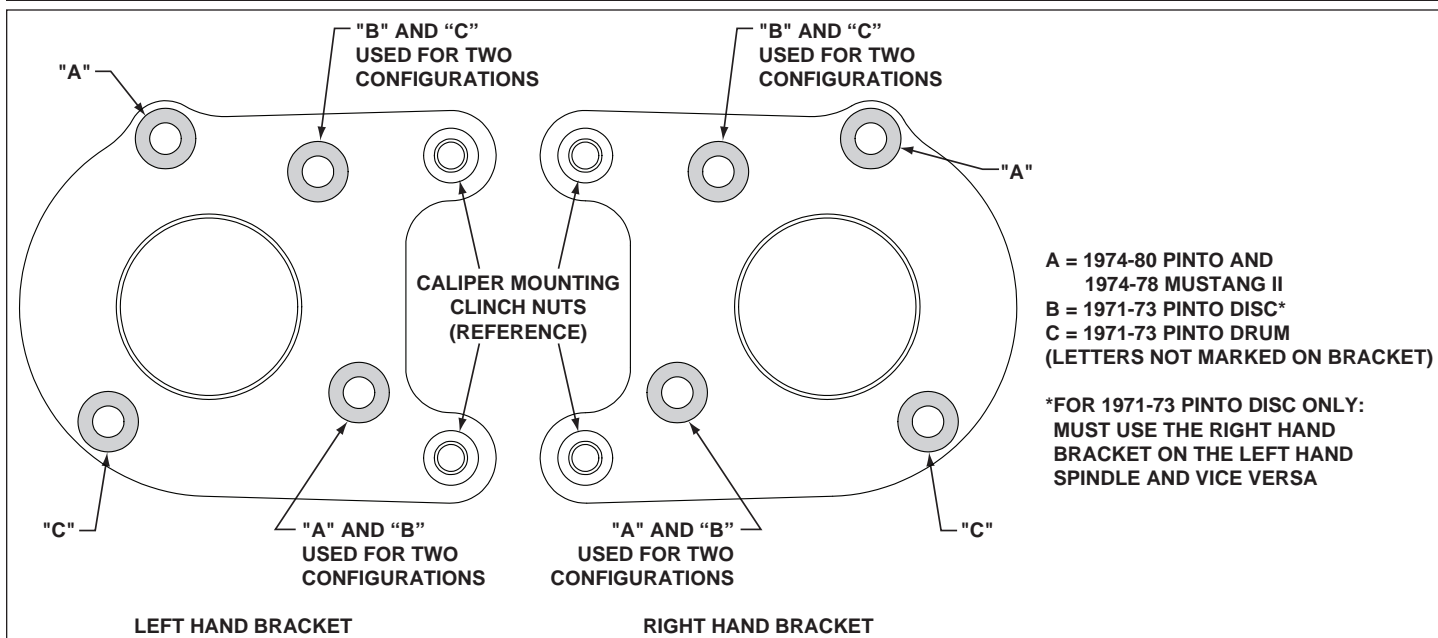
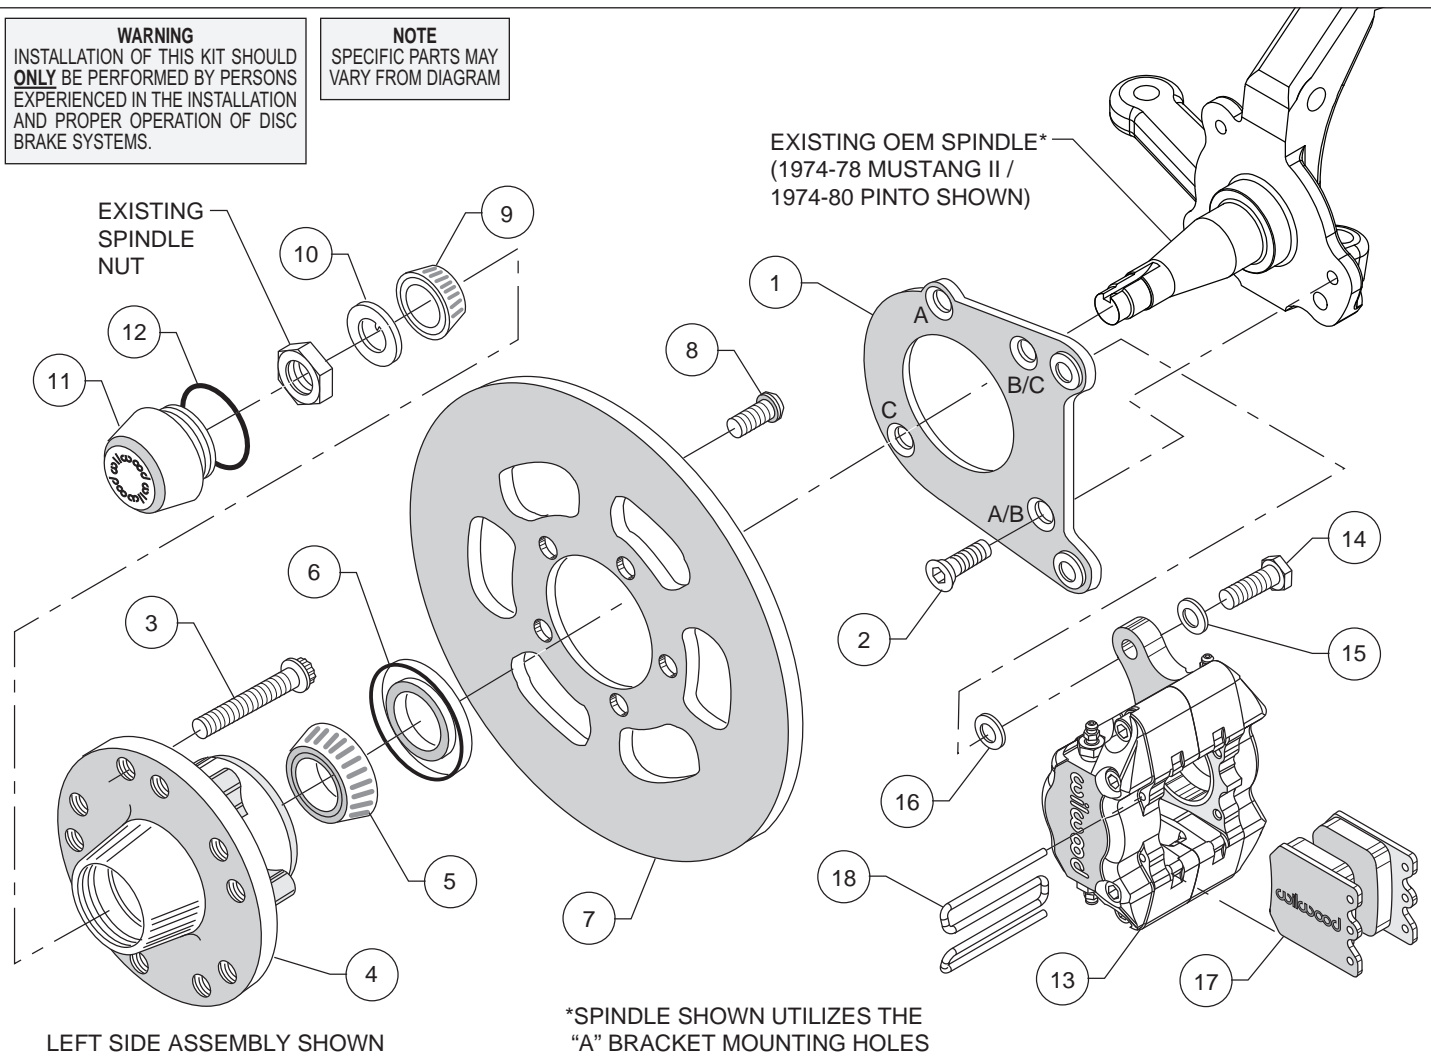
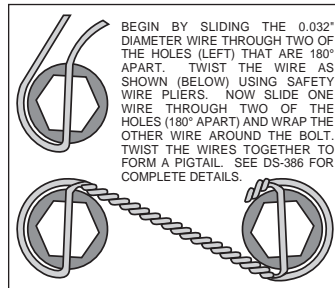
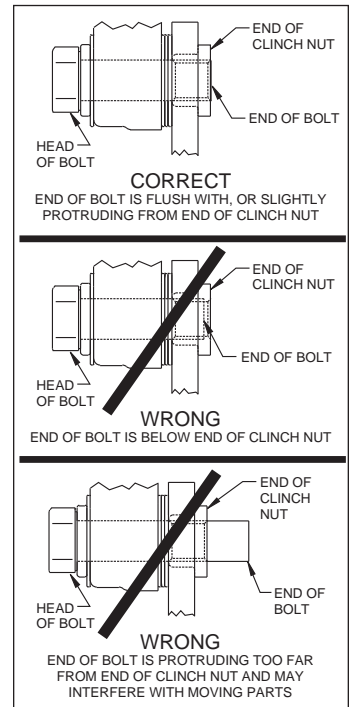

Figure 1. Wilwood Caliper Mounting Bracket
Figure 2. Typical Installation Configuration
Figure 4. Safety Wire Diagram
Figure 5. Clinch Nut Engagement Diagram
This kit has been designed for use with three spindle configurations. The only difference is in how the Wilwood caliper mounting bracket is installed. The same bracket is used for all three configurations; the 1974-78 Mustang II/1974-80 Pinto, the 1971-73 Pinto disc and the 1971-73 Pinto drum spindle (see Figure 1). For your convenience we have supplied fasteners for all applications (see parts list and Figure 2 as necessary, items 2 and 2A). Use the fasteners that are applicable to your vehicle and disregard the other items.
Assembly Instructions (numbers in parenthesis refer to the parts list, on the preceding page and Figure 2): **CAUTION:** All mounting bolts must fully engage clinch nuts. Be sure to check that all bolts are either flush or protruding through flanged side of clinch nut after shimming, Figure 5.
•Orient the caliper mounting bracket (1) as shown in Figure 2 and Photo 1. Using the bracket holes indicated “A” in Figure 1, mount the bracket to the spindle using bolts (2), Photo 1. Temporarily tighten the mounting bolts. Ensure that the flanged heads of the clinch nuts in the bracket are facing outboard, Photo 1. **NOTE:** *The bracket must fit squarely against the mounting points on the spindle.* Inspect for interference from casting irregularities, machining ridges, burrs, etc. Remove bolts one at a time, apply red *Loctite*® 271 to threads and torque to 30 ft-lb.
•Orient the caliper mounting bracket (1) as shown in Photo 2. Using the bracket holes indicated “B” in Figure 1, mount the bracket to the spindle using bolts (2), Photo 2. **NOTE:** *For this application, the right hand bracket must be used on the left hand spindle, and vice versa.* Temporarily tighten the mounting bolts. Ensure that the flanged heads of the clinch nuts in the bracket are facing outboard, Photo 2. **NOTE:** *The bracket must fit squarely against the mounting points on the spindle.* Inspect for interference from casting irregularities, machining ridges, burrs, etc. Remove bolts one at a time, apply red *Loctite*® 271 to threads and torque to 30 ft-lb.
•Orient the caliper mounting bracket (1) as shown in Photo 3. Using the bracket holes indicated “C” in Figure 1, mount the bracket to the spindle using bolts (2) and nuts (2A), Photo 3. Temporarily tighten the mounting bolts. Ensure that the flanged heads of the clinch nuts in the bracket are facing outboard, Photo 3. **NOTE:** *The bracket must fit squarely against the mounting points on the spindle.* Inspect for interference from casting irregularities, machining ridges, burrs, etc. Remove nuts one at a time, apply red *Loctite*® 271 to the bolt threads and torque nuts to 30 ft-lbs.
•Install wheel studs (3) into the hub (4), Photo 4. Torque to 77 ft-lb. **NOTE:** *There are two five lug patterns in the hub (5 x 4.50 and 5 x 4.75).* Ensure the correct hub stud pattern is being used to fit the wheel application.
•Pack the large inner bearing cone (5) with high temperature disc brake bearing grease (available from your local auto parts store) and install into the backside of the hub (4), Photo 5.
•Install the grease seal (6) by pressing into the backside of the hub (4), flush with the end of the hub, Photo 5.
•Orient the rotor (7) and the hub (4) as shown in Figure 2 and Photo 6. Attach the rotor to the hub using bolts (8). Using an alternating sequence, apply red *Loctite*® 271 to the threads, and torque to 45 ft-lb. **NOTE:** *The counterbored side of the rotor should face away from the hub.*
•Pack the small outer bearing cone (9) with high temperature disc brake bearing grease and install into hub (4). Slide the hub/rotor assembly onto the spindle. Secure using spindle washer (10) and OEM spindle nut, Photo 7. Adjust bearings per OEM specifications. Install saved OEM nut lock (if any) and a new cotter pin (not included).
•**NOTE:** Please reference the caution statement at the beginning of the assembly instructions. Mount the caliper (13) onto the caliper mounting bracket (1) using bolts (14) and washers (15), as shown in Figure 1. Initially place one .035" thick shim (16) on each bolt between the caliper and the bracket, Photo 9. Temporarily tighten the mounting bolts and view the rotor (7) through the top opening of the caliper. The rotor should be centered enough in the caliper so that the pads will install easily, Photo 10. If not, adjust by adding or subtracting shims (16) between the bracket and caliper. Always use the same amount of shims on each of the two mounting bolts. **CAUTION:** Do not exceed four shims (16) per bolt. **NOTE:** The end of each bolt must be flush with or slightly protruding from the head of the clinch nut, as shown in Figure 5. If necessary place spare shims between washer (15) and caliper mounting ear to achieve the proper clinch nut engagement. Once the caliper alignment and clinch nut engagement are correct, remove the bolts one at a time, apply red *Loctite*® 271 to bolt threads, and torque to 40 ft-lb. For an added measure of security, the bolts may be safety wired using standard 0.032 inch diameter stainless steel safety wire as shown in Figure 4. Refer to Wilwood's data sheet DS-386 (available at www.wilwood.com/Pdf/DataSheets/ds386.pdf) for complete safety wire installation instructions.